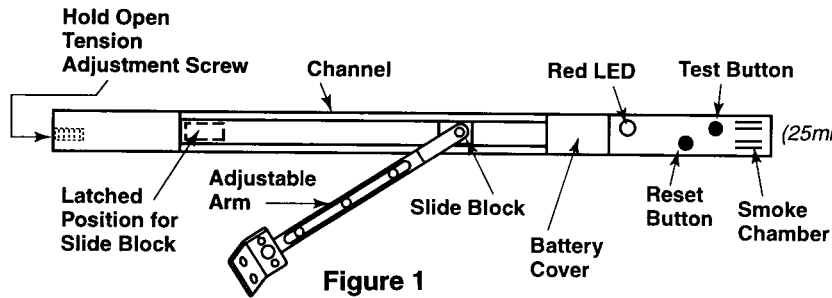

Figure 1
1. Remove battery compartment cover (see Fig. 1) and install alkaline 9-volt battery. (The red LED should now flash once every second and the motor will run briefly.)